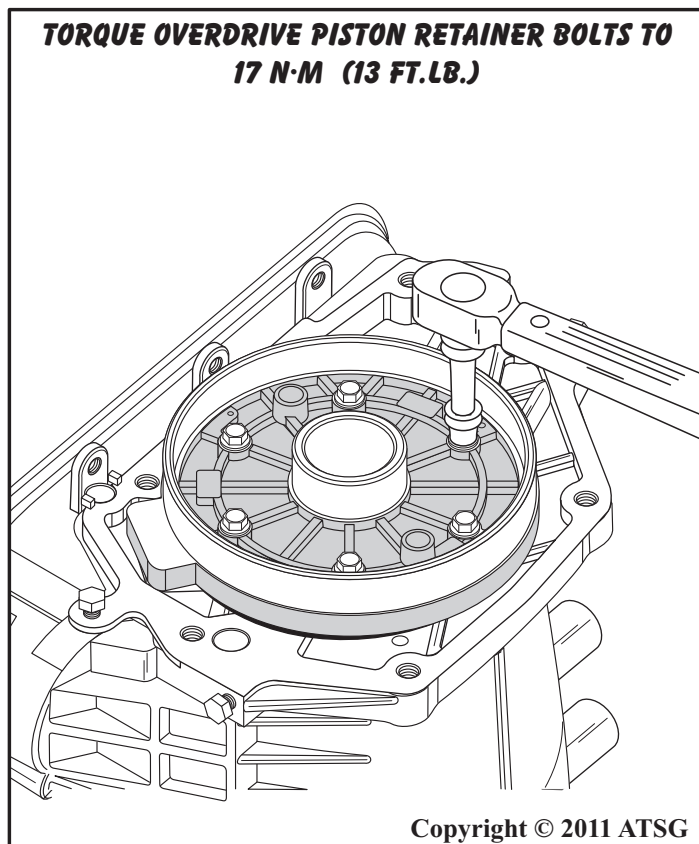

Figure 95
22. Torque the overdrive piston retainer bolts to 17 N·m (13 ft.lb.), as shown in Figure 95.